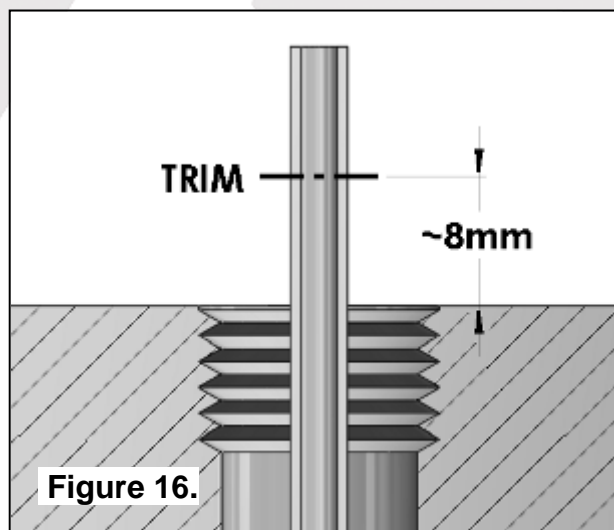

Figure 16.
- ☐ Mark a position on the protruding length of tube approximately 8mm [5/16"] from the bulkhead port (Fig. 16.).